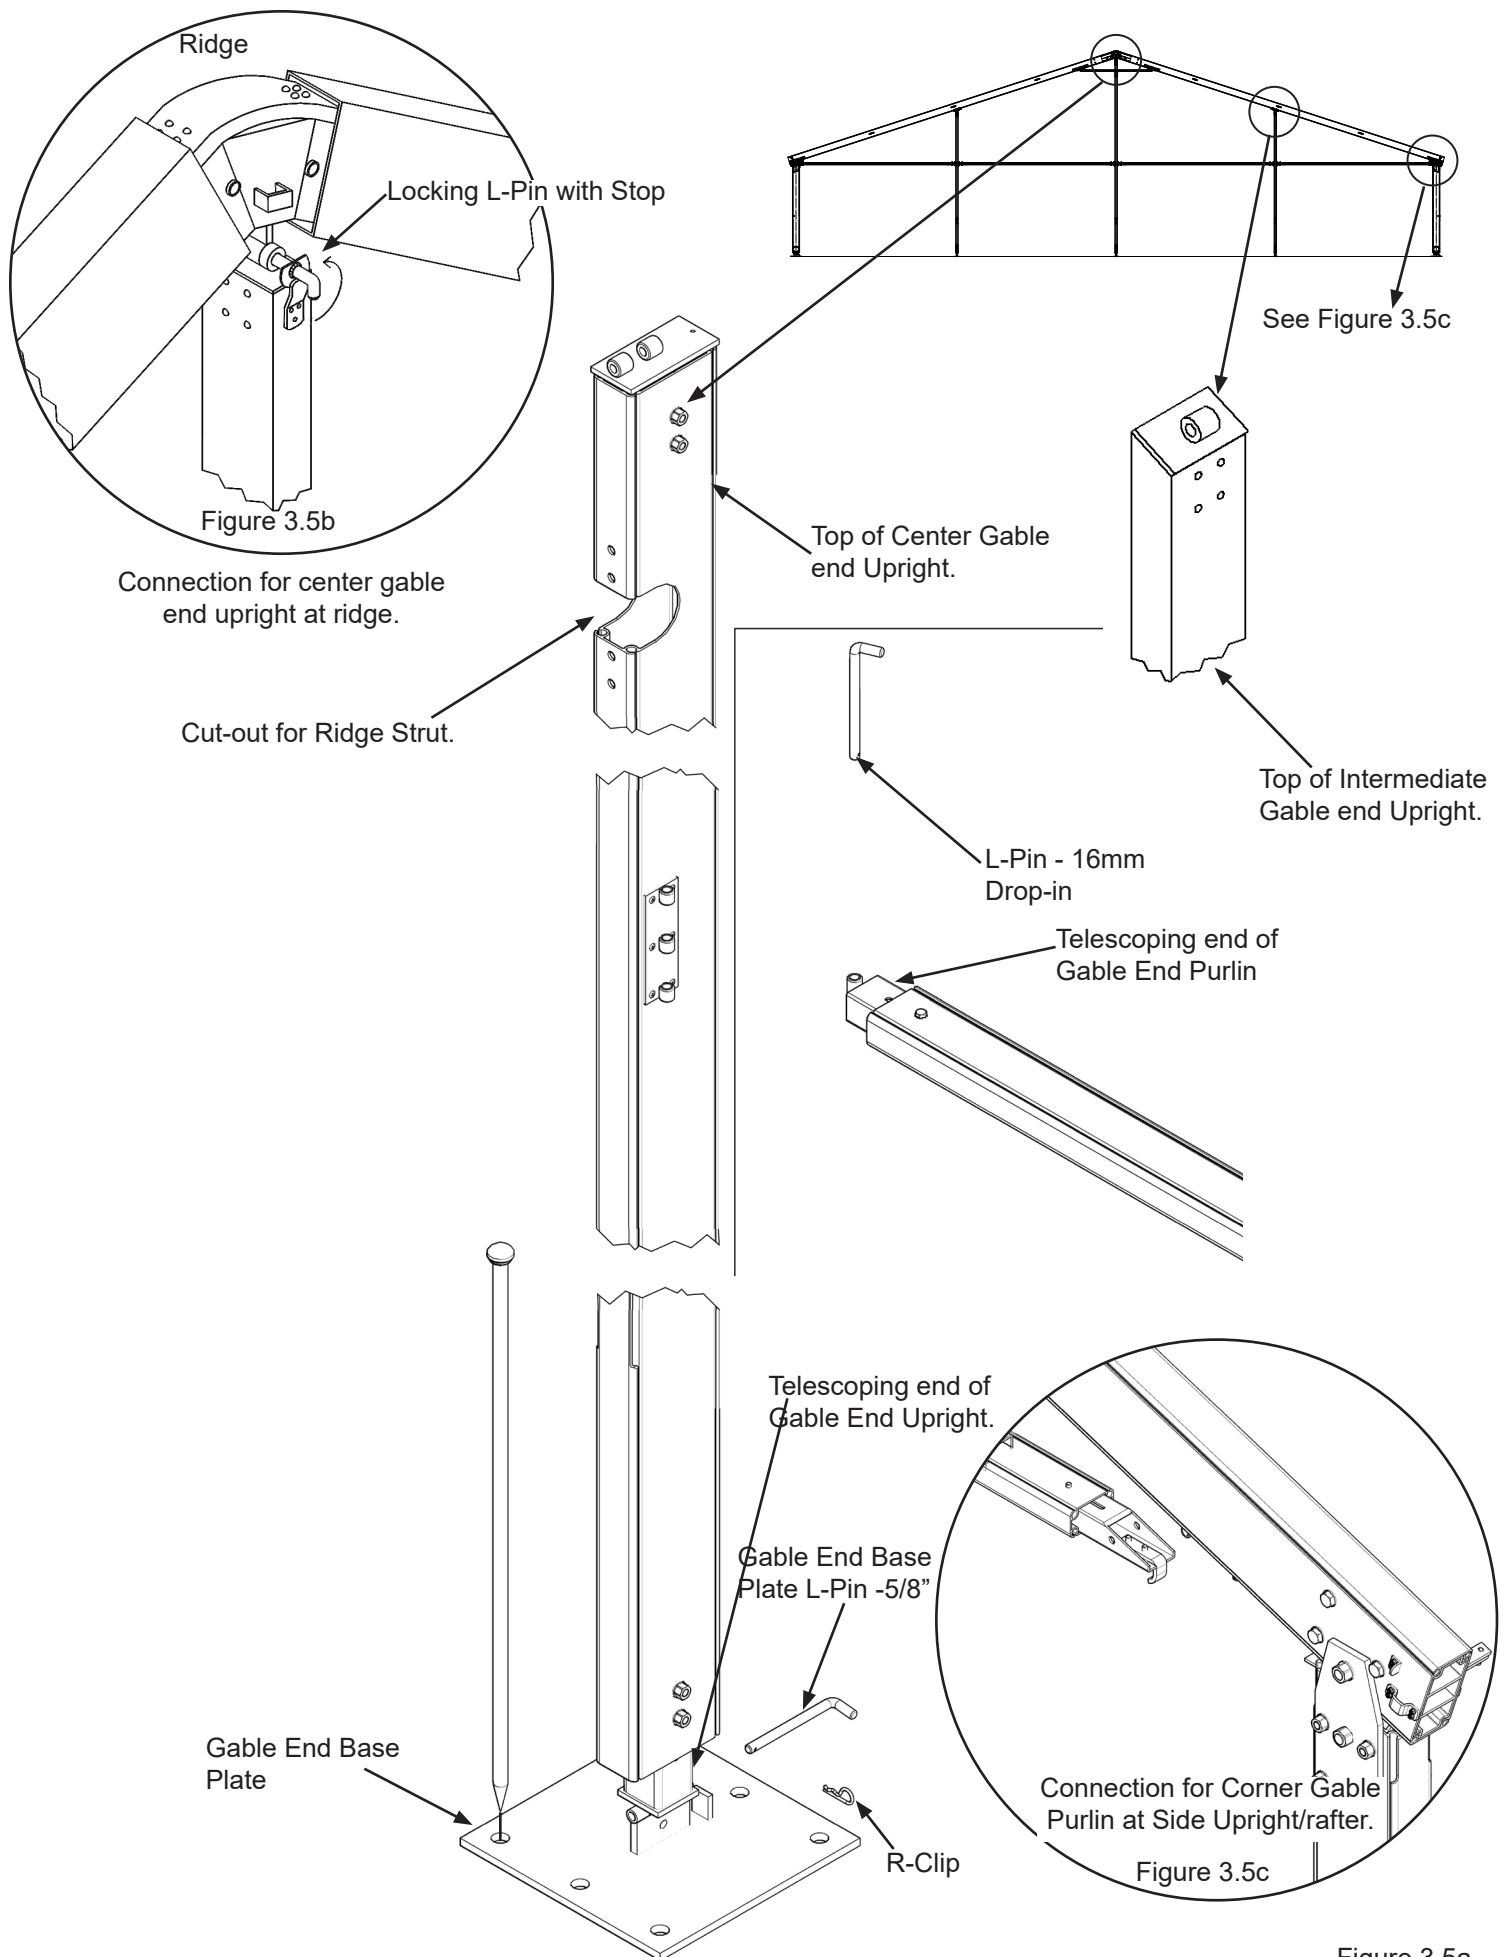

Figure 3.5a
3.5.2 At the Center Uprights, (where required) connect the insert weldment at the top of the G.E. Upright to the hinge tube at the bottom of the Ridge Weldment using the Locking L-Pin with Stop. See **Figure 3.5a. IMPORTANT:** Pay attention that the collar on the L-pin is engaged in the safety latch bracket at top of upright.
3.5.4 After the G.E. Uprights are connected to the arches, swing the G.E. Upright out from either side of vertical and insert the G.E. Base Plate into the bottom of the G.E. Upright. Swing the upright back to vertical. Adjust the G.E. Base Plate in or out to suit the adjoining grade and pin using the G.E. Base Plate L-Pin and R-Clip. See **Figure 3.5a. IMPORTANT:** Do not stake at this time.